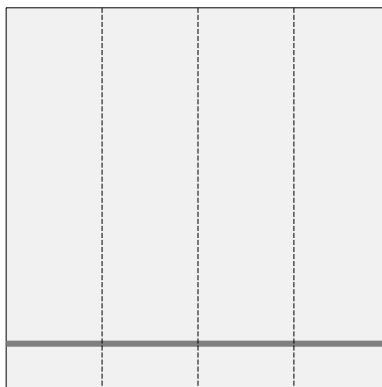

Figure 4: Steps 1 and 3 reference. The gray line represents the pencil line and the dotted lines represent folds.
1. Use a ruler and pencil to measure and draw a line 1 cm from the edge of one of the sides of the chromatography paper (Figure 4).
3. Repeat Step 2 to create four sections of identical size (Figure 4).